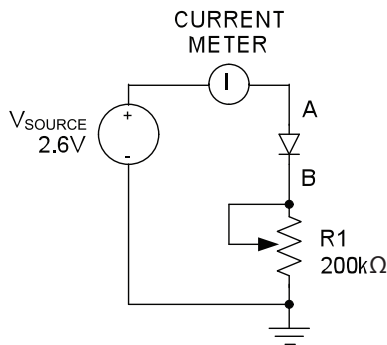

Figure 7. Test Circuit for Determining $V_{F(DARK)}$
Set up the test circuit of Figure 7. Adjust R_1 until the current meter indicates I_{DARK} (choose $I_{DARK} < 1\text{mA}$). Use a volt meter to measure the voltage at the anode of the LED (A), and then at the cathode of the LED (B). Subtract the voltage measured at B from that measured at A to determine $V_{F(DARK)}$. Some typical values determined using this method are listed in Table 2.
Table 2. Some Typical I_{DARK} and $V_{F(DARK)}$ Values Determined Using Figure 7